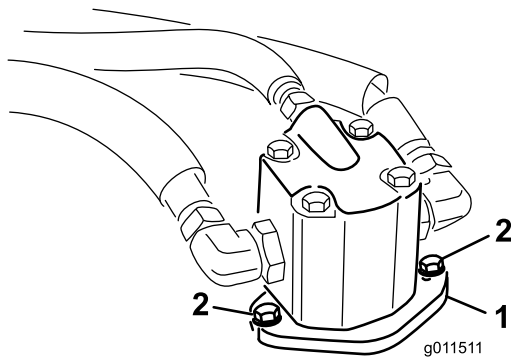

Figure 74
4. Remove the bolts securing the hydraulic motor to the mower deck (Figure 74).